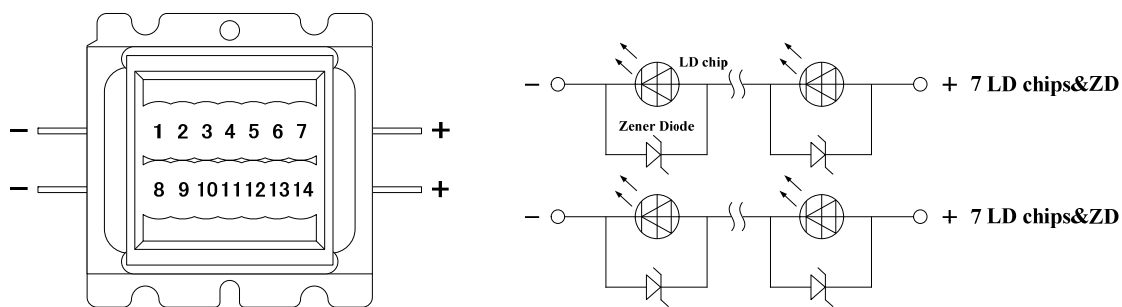

Fig.3 14LD chips Drive Circuit
*8) Condition: $T_m=75^{\circ}\text{C}$, ACC, $I_f=3.0\text{A}$ (CW), $N=14\text{LD}$ chips (Refer to Fig.3: 7series \times 2 connection)